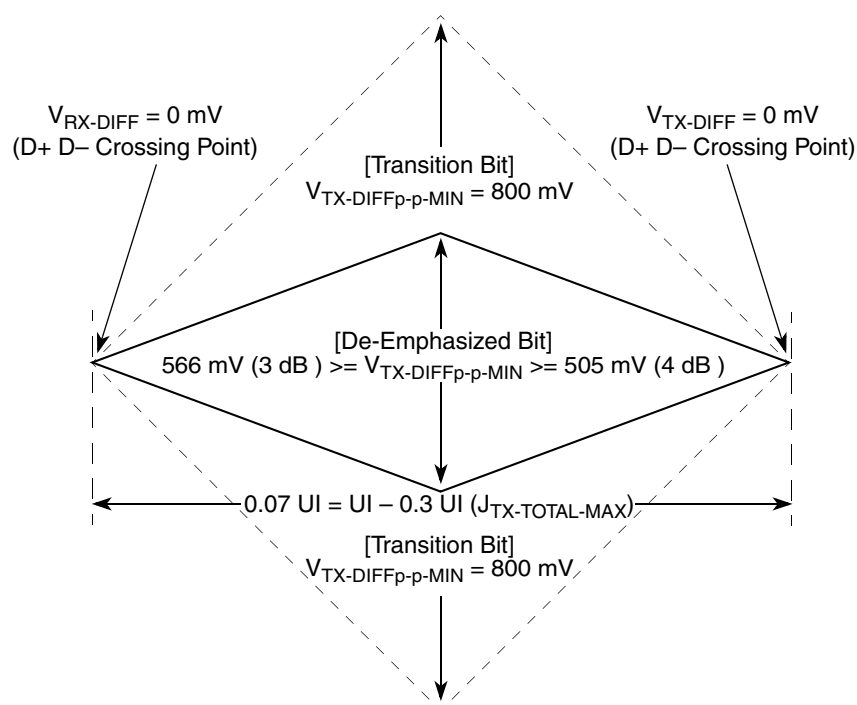
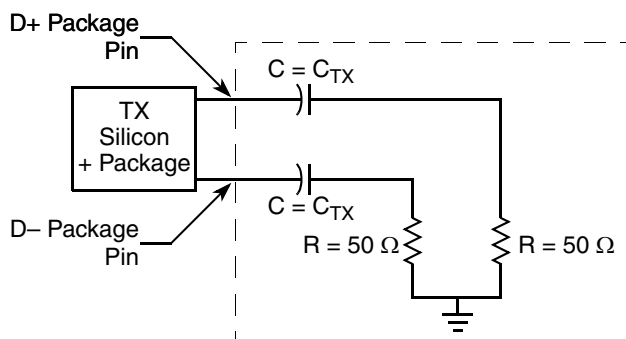

Figure 55. Minimum Transmitter Timing and Voltage Output Compliance Specifications
Figure 57. Compliance Test/Measurement Load
2. Specified at the measurement point into a timing and voltage compliance test load as shown in Figure 57 and measured over any 250 consecutive TX UIs. (Also refer to the transmitter compliance eye diagram shown in Figure 55.)
4. The Transmitter input impedance shall result in a differential return loss greater than or equal to 12 dB and a common mode return loss greater than or equal to 6 dB over a frequency range of 50 MHz to 1.25 GHz. This input impedance requirement applies to all valid input levels. The reference impedance for return loss measurements is 50 ohms to ground for both the D+ and D- line (that is, as measured by a Vector Network Analyzer with 50 ohm probes—see Figure 57). Note that the series capacitors  $C_{TX}$  is optional for the return loss measurement.
5. Measured between 20-80% at transmitter package pins into a test load as shown in Figure 57 for both  $V_{TX-D+}$  and  $V_{TX-D-}$ .
The TX eye diagram in Figure 55 is specified using the passive compliance/test measurement load (see Figure 57) in place of any real PCI Express interconnect + RX component.
2. Specified at the measurement point and measured over any 250 consecutive UIs. The test load in Figure 57 should be used as the RX device when taking measurements (also refer to the Receiver compliance eye diagram shown in Figure 56). If the clocks to the RX and TX are not derived from the same reference clock, the TX UI recovered from 3500 consecutive UI must be used as a reference for the eye diagram.
4. The Receiver input impedance shall result in a differential return loss greater than or equal to 15 dB with the D+ line biased to 300 mV and the D- line biased to -300 mV and a common mode return loss greater than or equal to 6 dB (no bias required) over a frequency range of 50 MHz to 1.25 GHz. This input impedance requirement applies to all valid input levels. The reference impedance for return loss measurements for is 50 ohms to ground for both the D+ and D- line (that is, as measured by a Vector Network Analyzer with 50 ohm probes - see Figure 57). Note: that the series capacitors CTX is optional for the return loss measurement.
The RX eye diagram in Figure 56 is specified using the passive compliance/test measurement load (see Figure 57) in place of any real PCI Express RX component.
Note: In general, the minimum Receiver eye diagram measured with the compliance/test measurement load (see Figure 57) is larger than the minimum Receiver eye diagram measured over a range of systems at the input Receiver of any real PCI Express component. The degraded eye diagram at the input Receiver is due to traces internal to the package as well as silicon parasitic characteristics which cause the real PCI Express component to vary in impedance from the compliance/test measurement load. The input Receiver eye diagram is implementation specific and is not specified. RX component designer should provide additional margin to adequately compensate for the degraded minimum Receiver eye diagram (shown in Figure 56) expected at the input Receiver based on some adequate combination of system simulations and the Return Loss measured looking into the RX package and silicon. The RX eye diagram must be aligned in time using the jitter median to locate the center of the eye diagram.
The reference impedance for return loss measurements is 50. to ground for both the D+ and D- line (that is, as measured by a Vector Network Analyzer with 50. probes—see Figure 57). Note that the series capacitors, CTX, are optional for the return loss measurement.
The AC timing and voltage parameters must be verified at the measurement point, as specified within 0.2 inches of the package pins, into a test/measurement load shown in Figure 57.